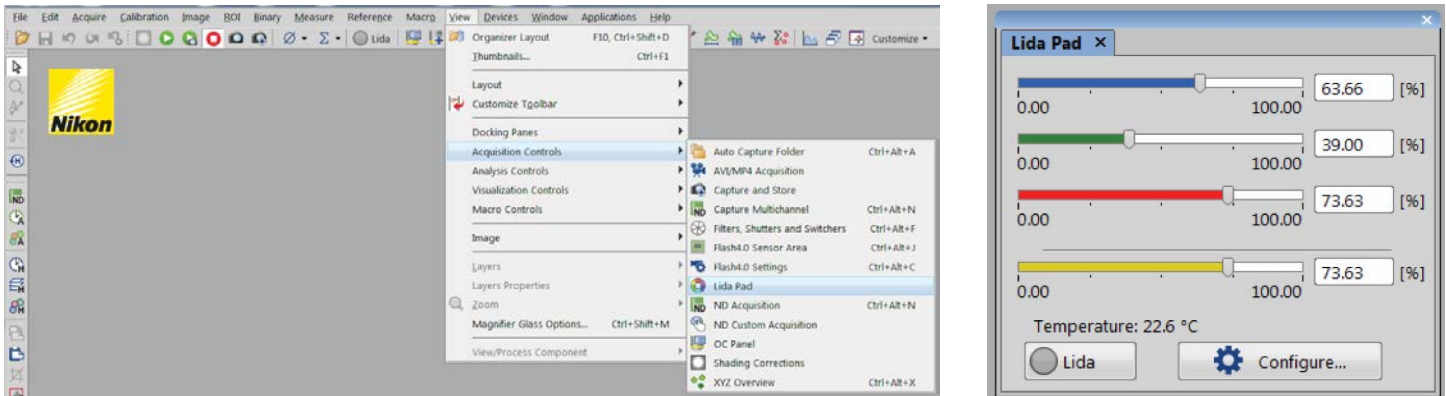

Figure 3. (Left) How to access the Lida control pad: View> Acquisition Controls > Lida Pad. (Right) Lida control pad.
3. Light output on/off and red, green and blue output intensity (0-100) are controlled by the LIDA control pad (Figure 3).
6. Click the Auto White button. The relative intensities of the red, green and blue light sources (Figure 3) will be automatically adjusted for optimal color rendition.